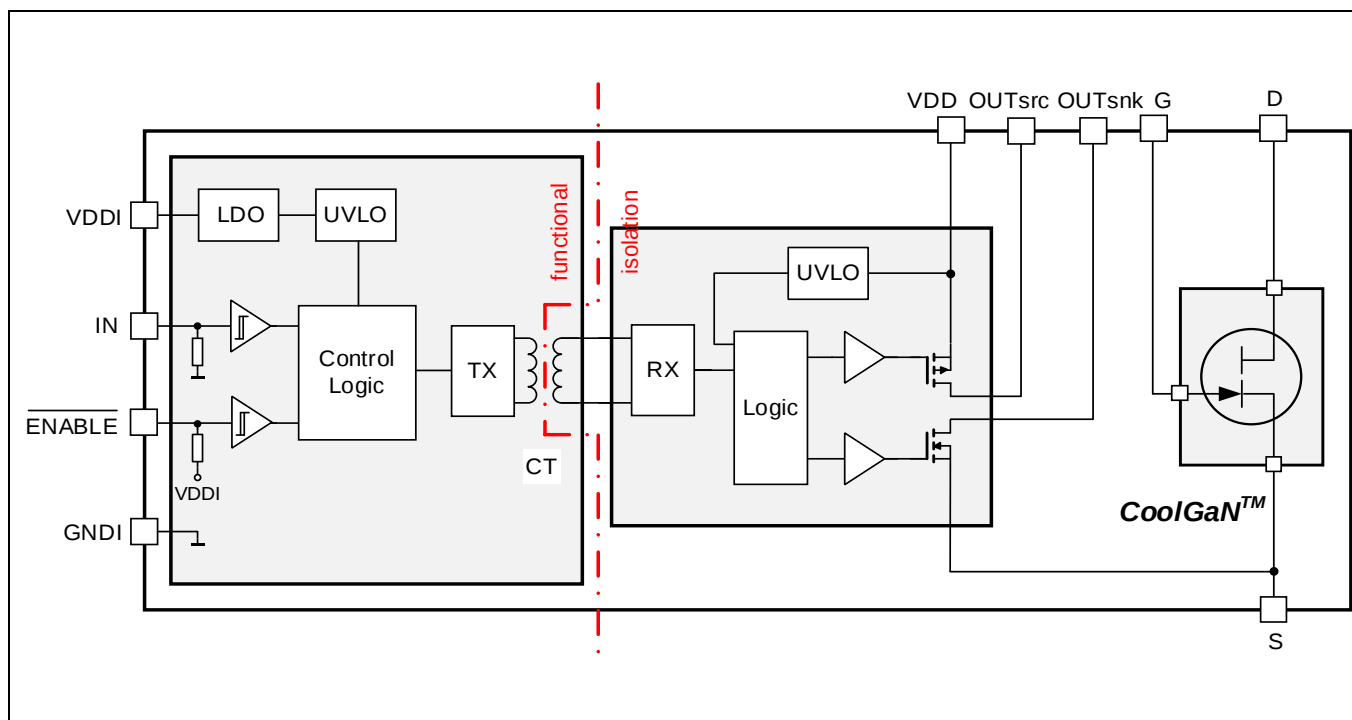

Figure 3 Block Diagram IGI60F140A1L
A simplified functional block diagram of the GaN Power Stage is given in **Figure 3**. For level-shifting of the input signal to a high-side switch an on-chip coreless transformer (CT) is utilized, resulting in a galvanic input-to-output isolation.